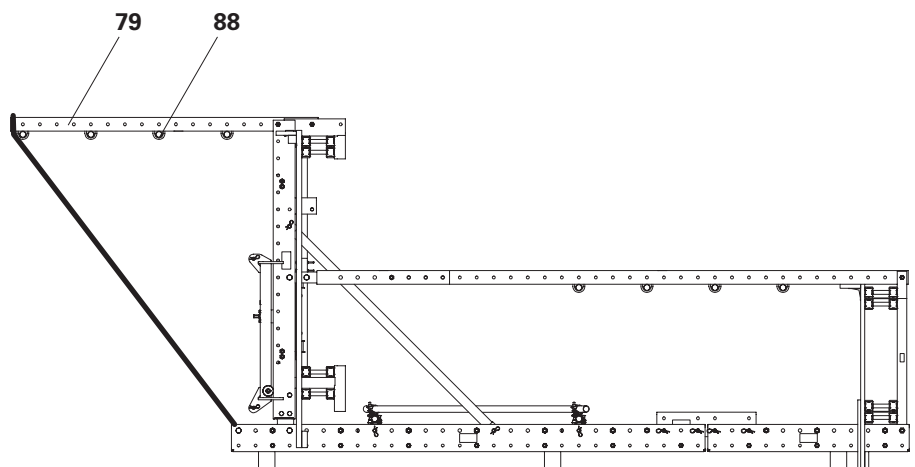

Fig. E2.01
1. Secure the finishing platform (33) to prevent it from tipping over.
2. Remove scaffolding tubes (88) and guardrail posts (79) (81). (Fig. E2.01)